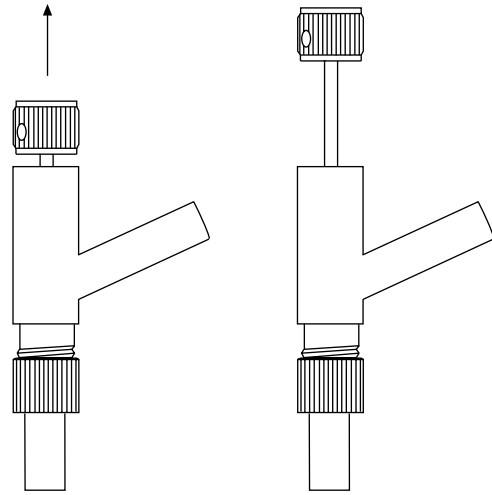

Figure 71. Opening the Camera to the Vacuum System
4. After a reasonable vacuum level is reached (~20 mTorr), turn the top knob of the Vacuum Connector clockwise a few turns. While holding the body of the connector, pull up on the top knurled knob until it stops (see Figure 71). This opens the camera to the vacuum system, and a change in vacuum pressure in the system should be observed.